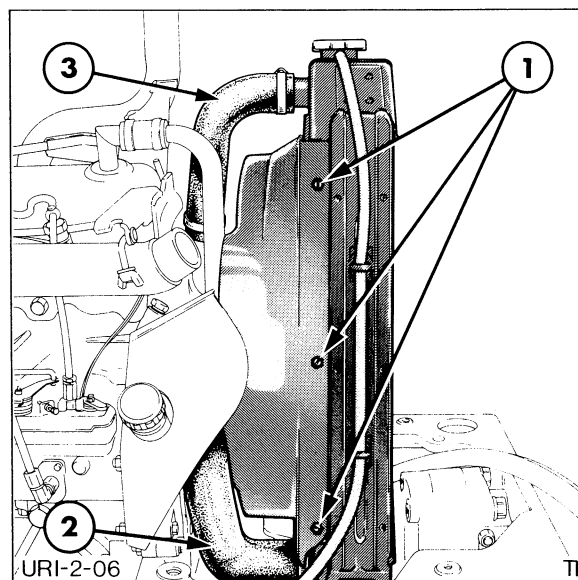

FIGURE 1-76
12. Disconnect the upper and lower radiator hoses, Figure 1-76.